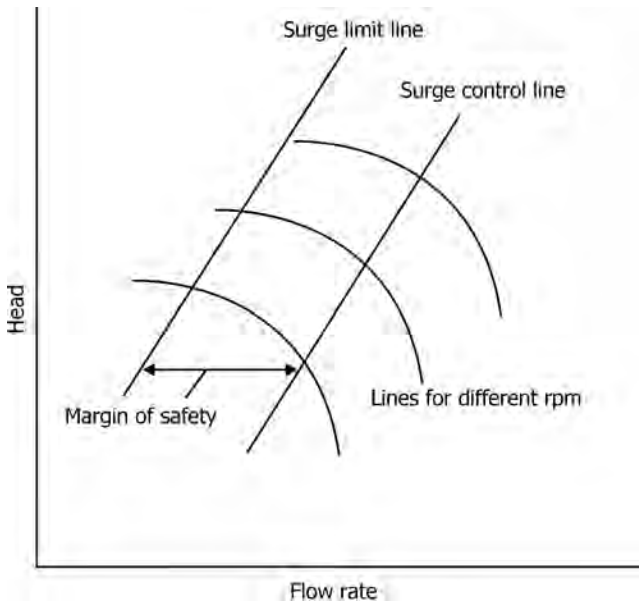

FIGURE 5.39 Illustration of operable range for the compressor with surge-free conditions.
- Figure 5.39 illustrates the difference between surge limit line and surge control line, below which inoperable conditions exist and the margin of safety for operation of the compressor, with small drop in head over a range of capacities.